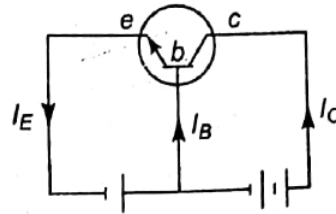

Fig. 3: The p-n-p Transistor
Figure 3 shows the basic connections of a p-n-p transistor. The forward bias causes the holes in p-type emitter to flow towards the base. This constitutes the emitter current  $I_E$ . These holes cross through the n-type base, and they tend to combine with the electrons. As this base is lightly doped and very thin, therefore only a few holes (less than 5%) combine with the electrons. To replenish the lost electrons in the n-type base, an electron moves in the base electrode for each recombination and results in the base current  $I_B$ . The remaining holes (more than 95%) cross into the collector region to constitute the collector current  $I_C$ . In this way, approximately entire emitter current flows to the collector circuit. Thus the conduction within a p-n-p transistor is by the majority carriers, i.e.,  $I_E = I_C + I_B$
**Apparatus Required:** A p-n-p transistor, two batteries of 3V and 9V each. A potentiometer of total resistance of 1Mohm and another of the resistance of 25kohm, two voltmeters of range 0-3V and 0-10V and for current measurement, one microammeter (0-200 nA for  $I_b$  measurement) are used as shown in Figure 3.